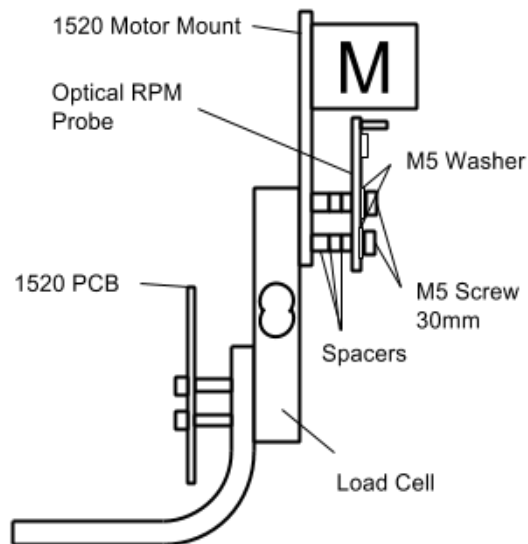

Fig. 1: Series 1520 optical probe installation - part 1
4. Install the optical RPM probe following figure 1, 2 and 3. Use different combination of the spacers to adjust the position of the optical RPM probe depending on your motor thickness.